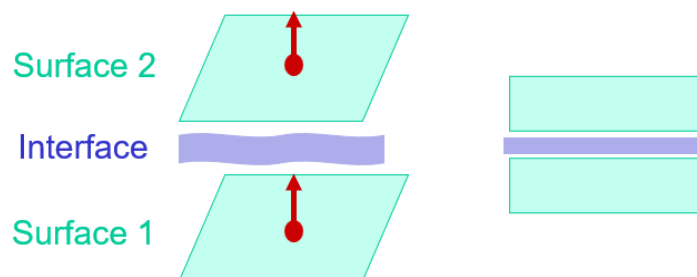

Fig. 3-5 Interface geometry orientation and sequence.
**Create interface 2D/3D** is tool that makes geometry with specific requirements for **Interface** material. Interface 2D geometry is made from two topologically identical curves that cannot share any point. Moreover, the normal of the curves have to have same direction and the sequence of curves (curve1 and curve 2 of interface) has to follow the normal direction. Similarly, the geometry must be created in 3D without shared entities within surface geometry. The normal of surfaces have to point in same direction and the surface 1 and surface 2 to have to follow the normal orientation. Please check the Fig. 3-5. User can create Interface geometry from one curve/surface (option **One curve to duplicate/One surface to duplicate**) and the normal direction and correct the sequence of entities is created automatically.